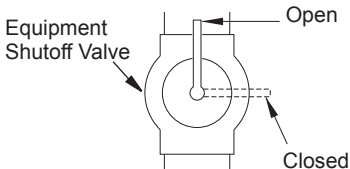

Figure 14 - Equipment Shutoff Valve
1. Close equipment shutoff valve (see Figure 14).
1. Open equipment shutoff valve (see Figure 14, page 16).